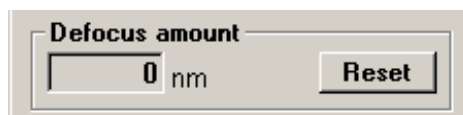

Fig. 3-45 Defocus amount Indication Box
- (b) The amount of defocus from the current in-focus status is displayed in the Defocus amount indication box shown in Fig. 3-45.